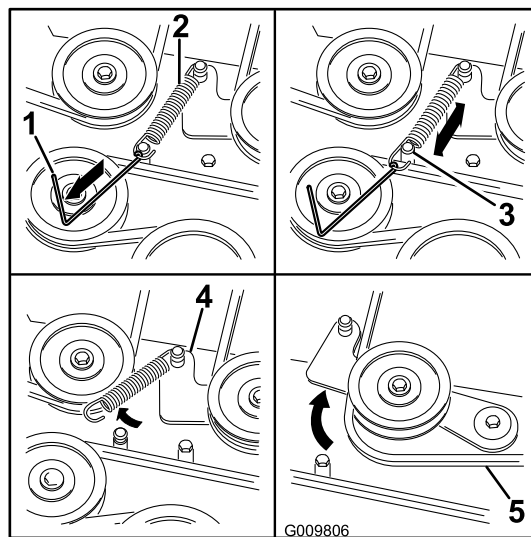

Figure 67
- Using a spring removal tool, (Toro part no. 92-5771), remove the idler spring from the deck post to remove tension on the idler pulley (Figure 67).
8. Install the new belt around the mower pulleys and the clutch pulley under the engine (Figure 67).
9. Using a spring removal tool, (Toro part no. 92-5771), install the idler spring over the deck post and placing tension on the idler pulley and mower belt (Figure 67).